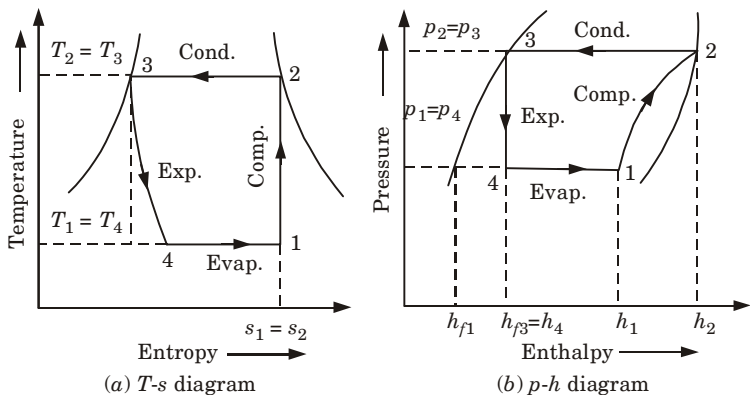

Fig. 14. Theoretical vapour compression cycle with dry saturated vapour after compression.
- The four process of the cycle is shown on T -s and p -h diagrams in Fig. 14(a) and (b).